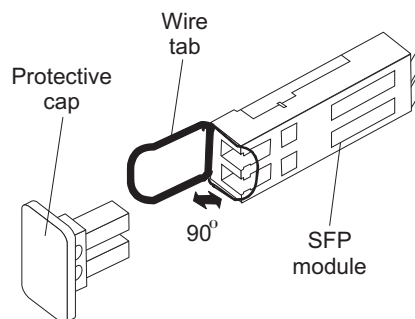

Figure 24. Unlocking the SFP module latch - wire variety
- For SFP modules that contain wire tabs, unlock the SFP module latch by pulling the wire latch outward 90°, as shown in Figure 24 on page 35.